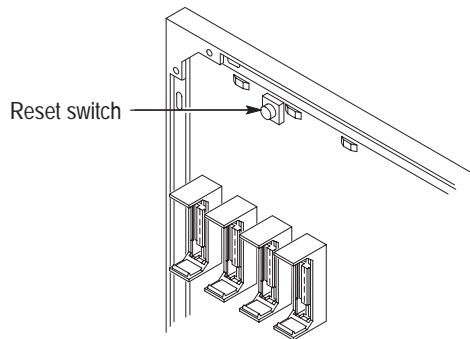

Figure 1–6: Location of the Reset switch
**Reset Switch** You can issue a reset by pressing the button on top of the reset switch (see Figure 1–6 for location).